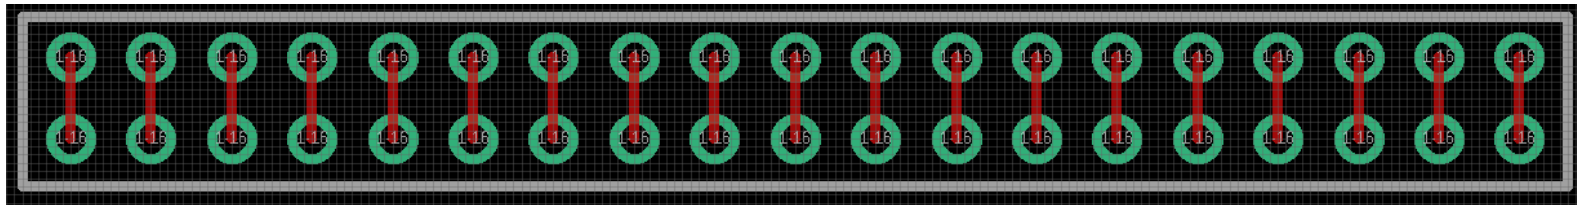
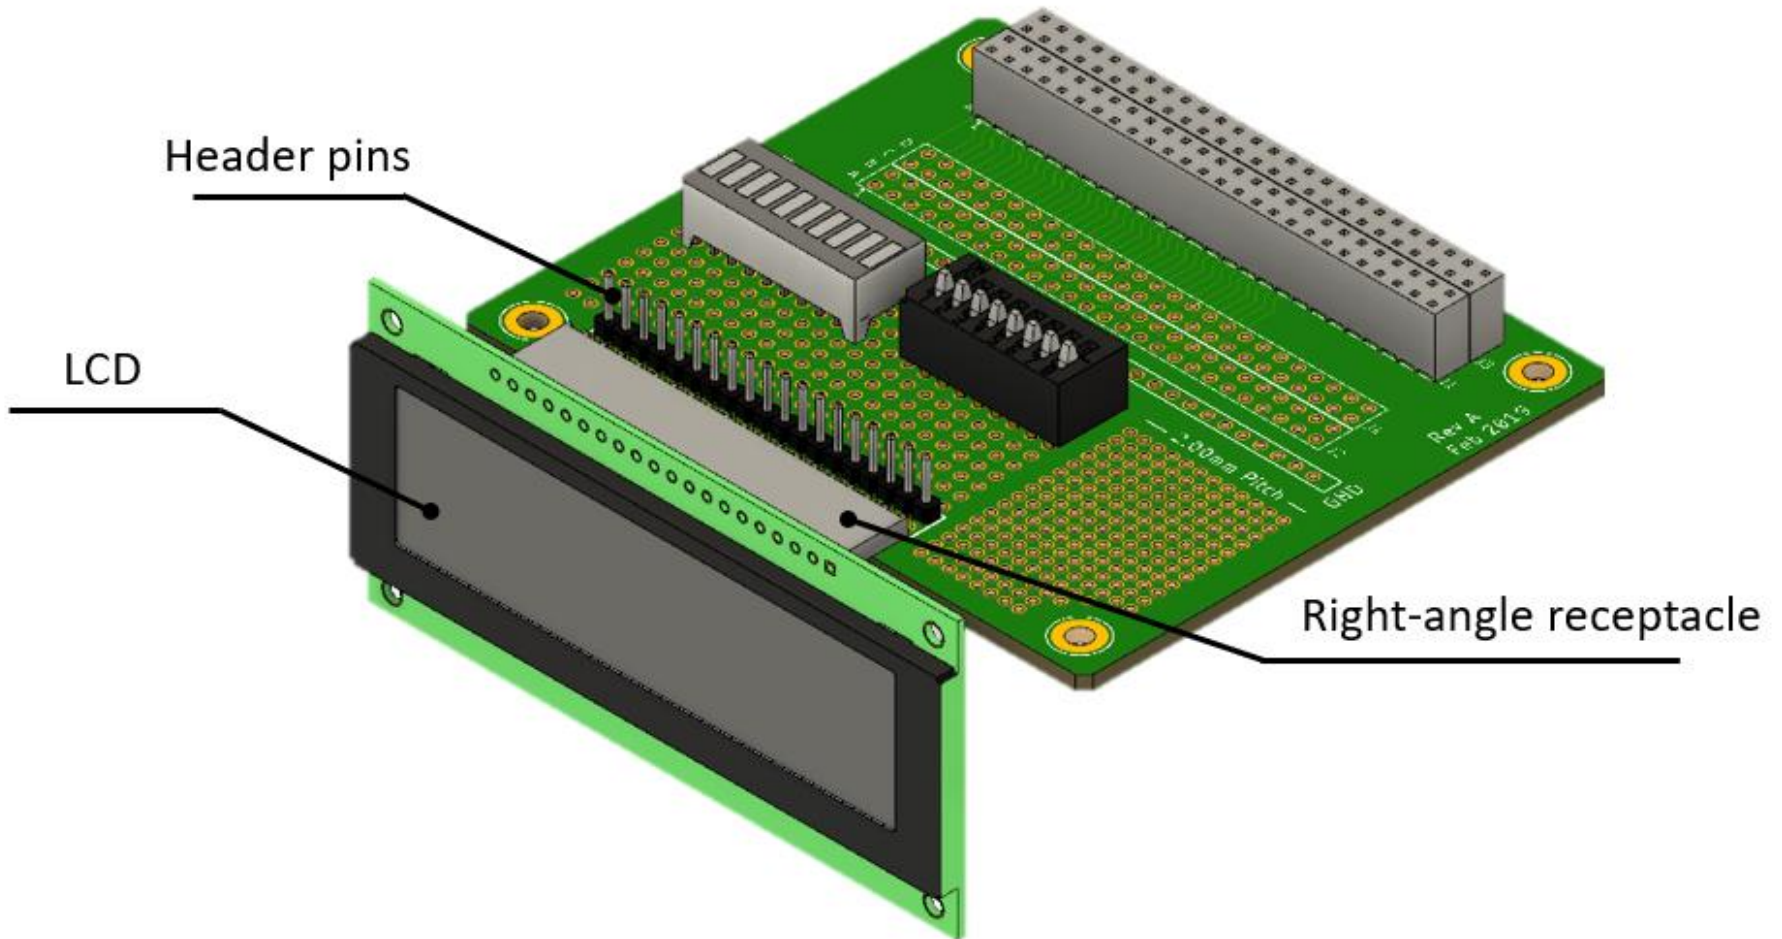

Figure 3. Modulus™ 1-to-1 Link.
Figure 4. Using 1-to-1 Link Example.
The 1-to-1 link provides wire-wrapping capability to any sensor or module that may need to be configured on the edge of the board (i.e. LCD, right-angle sensors). The board routing for this feature is shown in Figure 3 and an example design is shown in Figure 4. By using through-hole header pins, right-angle receptacle, and an LCD display, you can easily integrate a space-saving design. Wire-wrap can be used to connect the header pins to other solder points or installed pins on the Canister.
4. Solder desired sensors, switches, or LEDs to the 2.54mm or 2.00mm sections of the board. An example design is shown in Fig. 4.